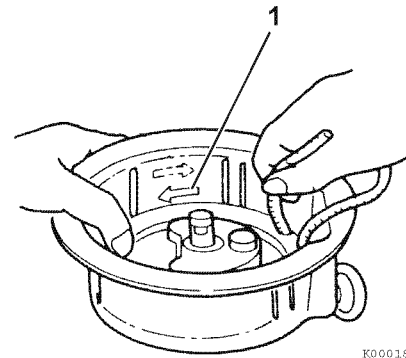

Figure 8-45
10. Wind the reel four turns in the direction shown (**Figure 8-45**) while holding the rope in the notch of the reel.